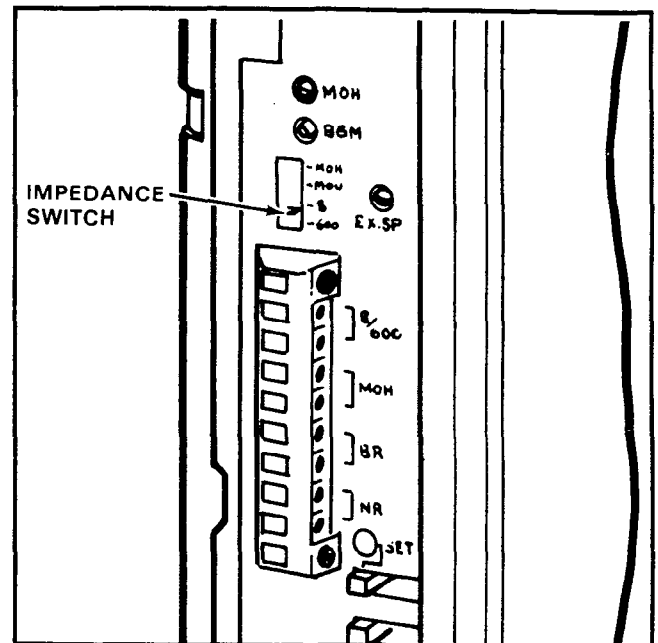

FIGURE 36—IMPEDANCE SWITCH
10.42 The 8-ohm output impedance must be selected with the **SW2** switch on the left side panel (Figure 36). The switch must be on the side labeled "8".